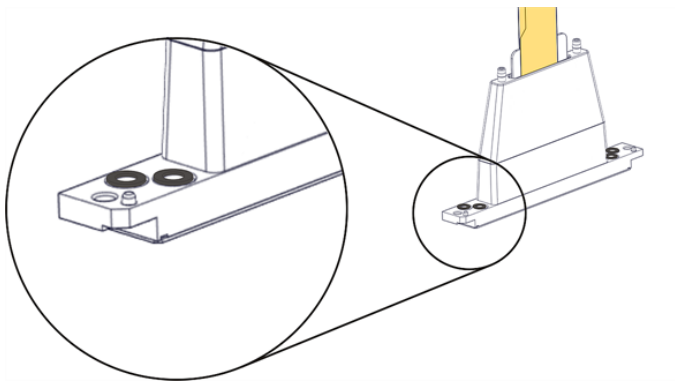

Figure 4-84 O-ring seals on the print head
16. Place four (4) **new** O-ring seals in the replacement head (see Figure 4-84 on the previous page).